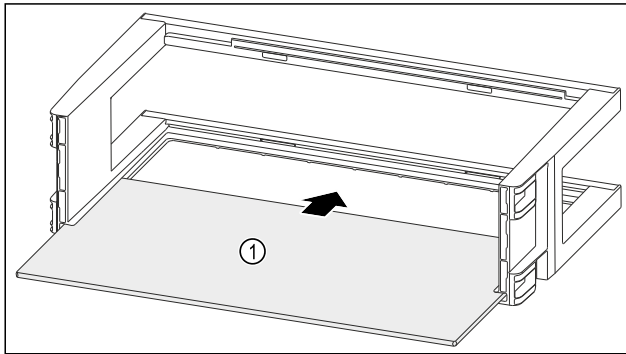

Fig. 137
- Push the shelf Fig. 137 (1) into the side recesses.